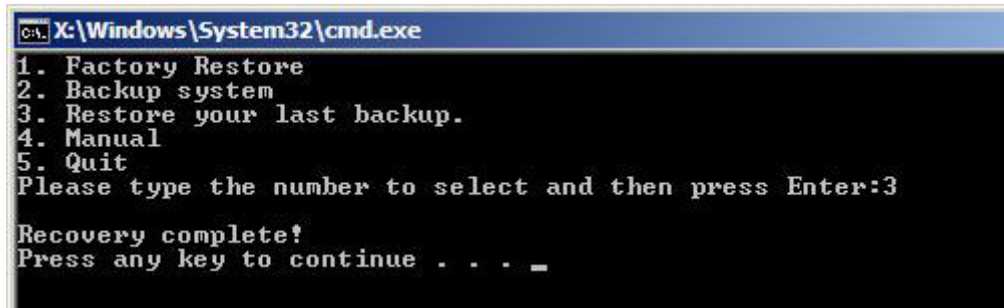

Figure B-39: Restore System Backup Complete Window
Step 3: The screen shown in **Figure B-39** appears when backup recovery is complete.